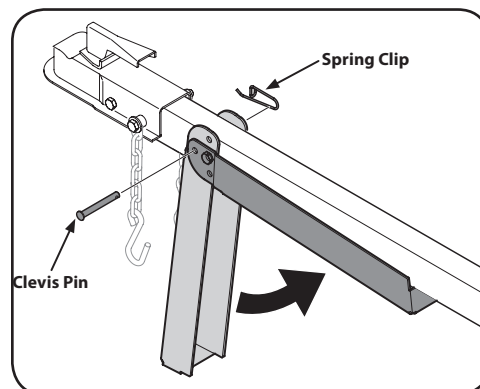

Figure 4-5
3. Support the tongue and pivot the jack stand up against the tongue. See Figure 4-5.
4. Secure with the spring clip and clevis pin previously removed in Step 2. See Figure 4-5.